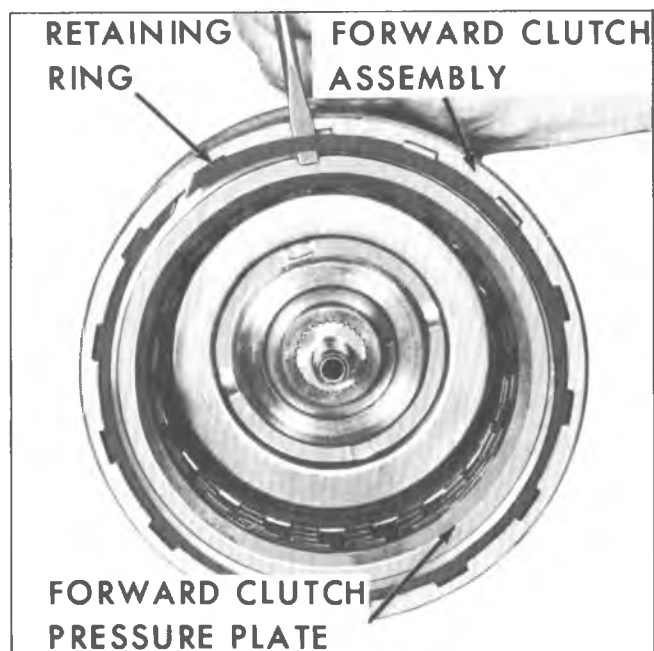

Fig. 78M--Removing Forward Clutch Retaining Ring and Pressure Plate
1. Remove forward clutch retaining ring and pressure plate (fig. 78M).